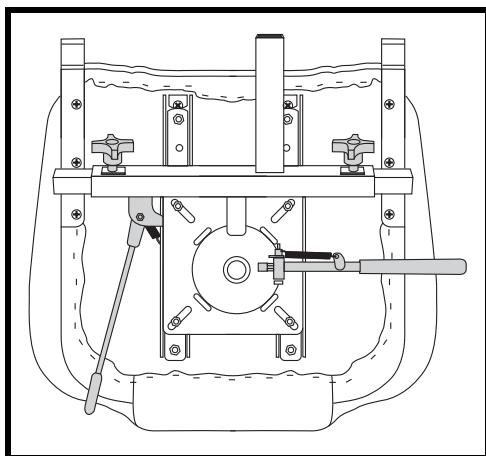

Figure 18. Seat Height Adjustment
2. Place the seat upside down so that you can see the bottom of the seat base. See **figure 18**.